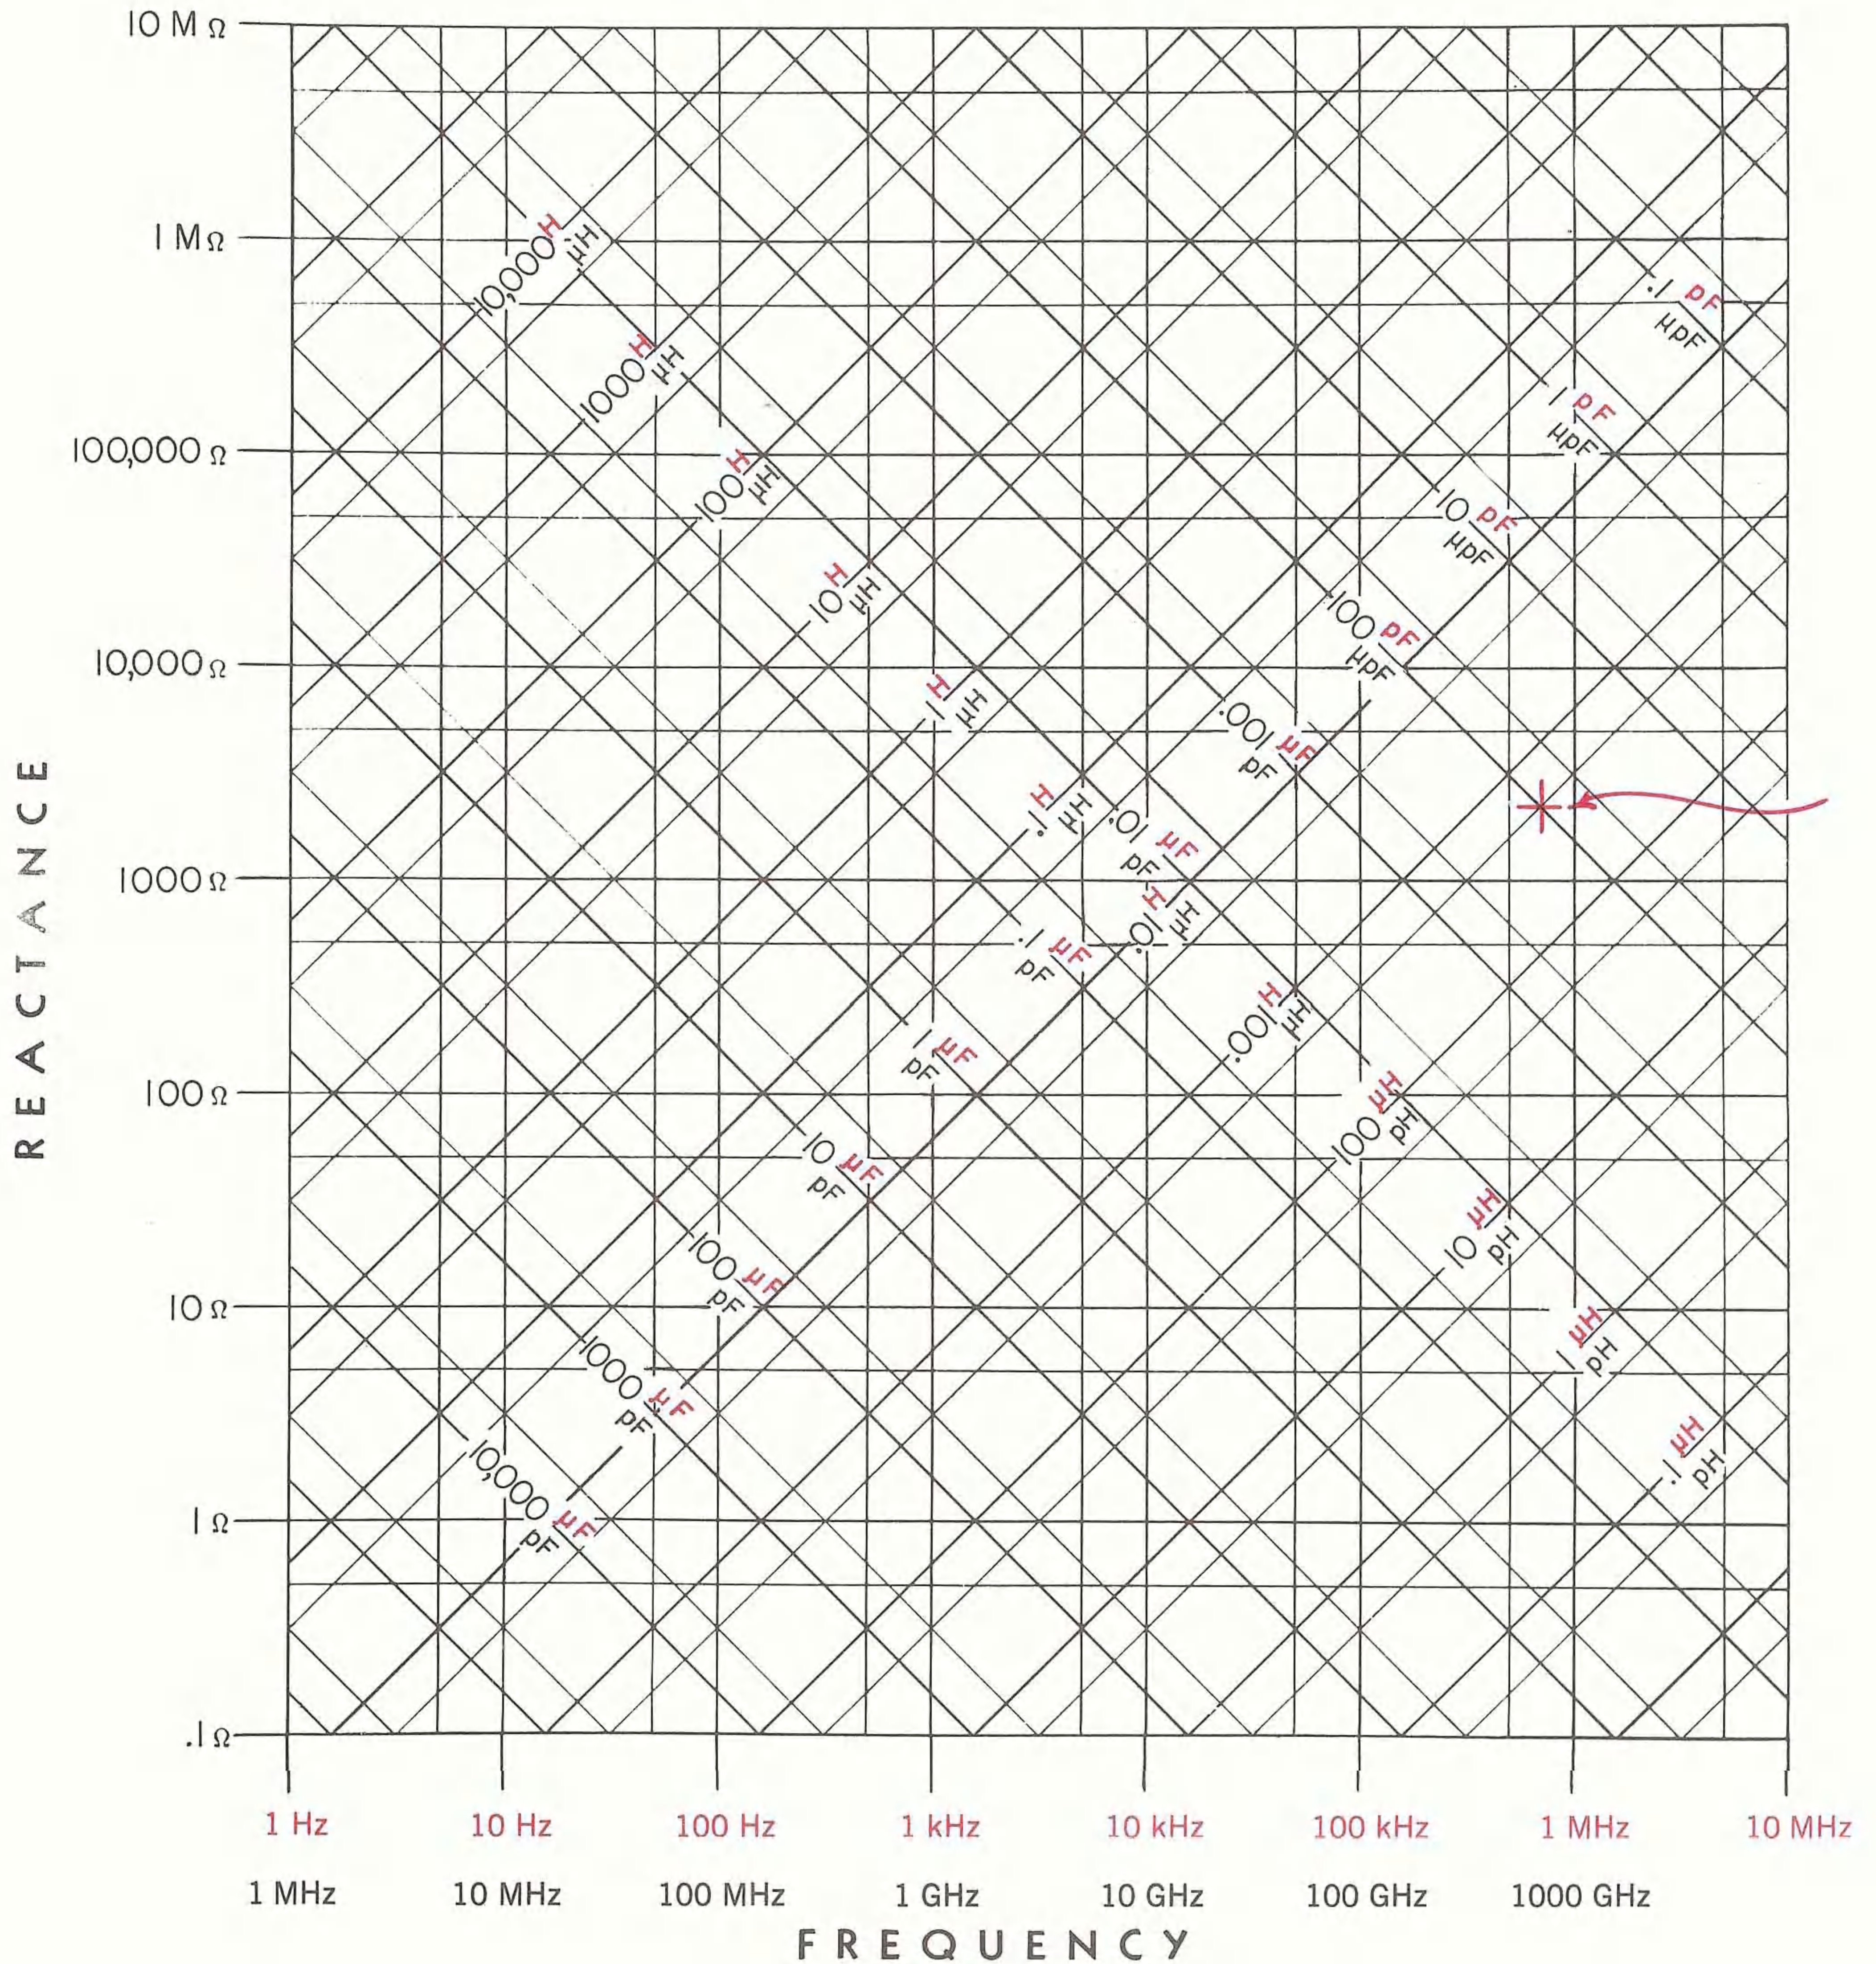
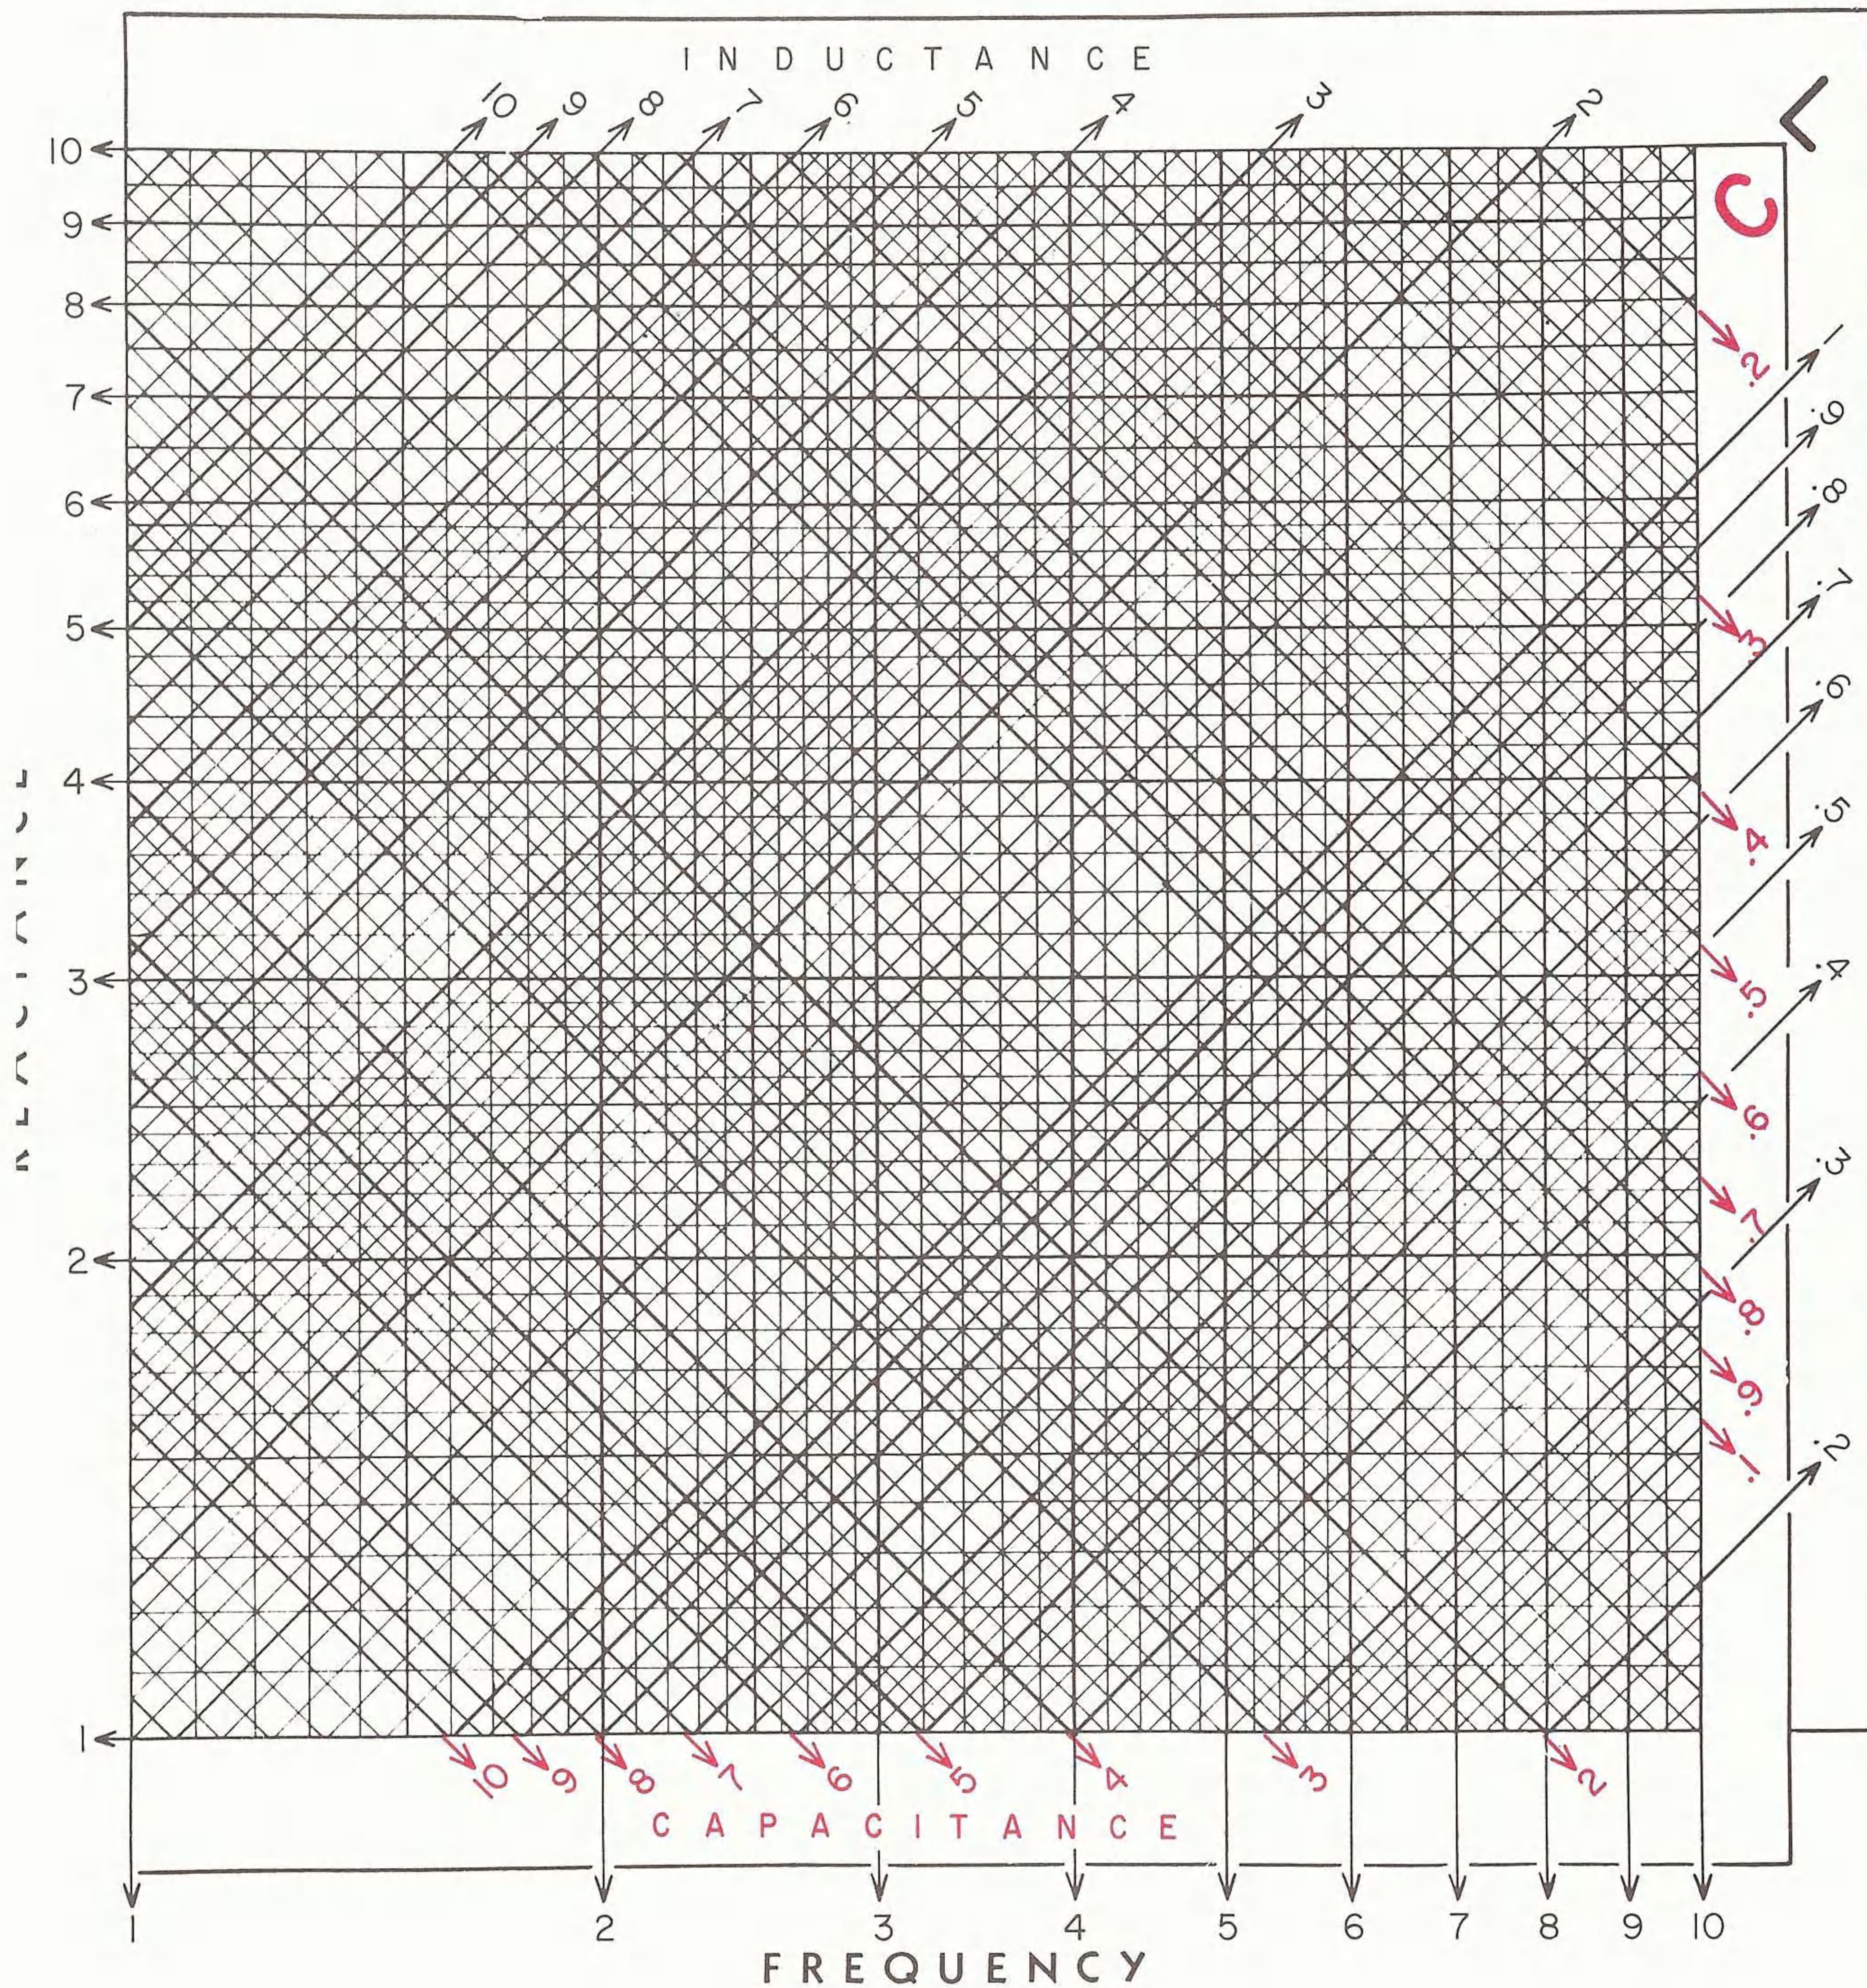

FIGURE 1
FIGURE 2
Figure 1 is the complete chart, used for rough calculations. Figure 2, which is a single decade of Figure 1 enlarged approximately 7 times, is used where two or three significant figures are to be determined.
Always obtain approximate value from Figure 1 before using Figure 2
**Example:** The point indicated in Figure 1 corresponds to a frequency of about 700 kHz and an inductance of 500  $\mu$ H, or a capacitance of 100 pF, giving in either case a reactance of about 2000 ohms. The resonant frequency of a circuit containing these values of inductance and capacitance is, of course, 700 kHz, approximately.
### USE OF FIGURE 2
Figure 2 gives additional precision but does not place the decimal point, which must be located from a preliminary
entry on Figure 1. Since the chart necessarily requires two logarithmic decades for inductance and capacitance for every single decade of frequency and reactance, unless the correct decade for L and C is chosen, the calculated values of reactance and frequency will be in error by a factor of 3.16. In Figure 2, the capacitance scale is red; inductance scale is black.